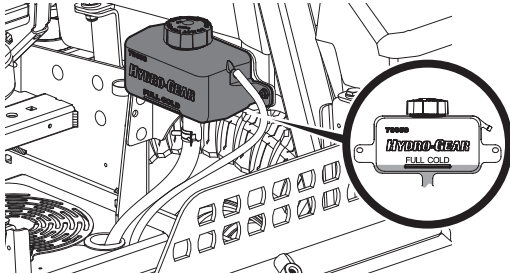

Figure 42
- Turn the reservoir cap counter-clockwise to remove, then check the oil level in the reservoir. Oil should be visible at the bottom of the cup, but the oil level must NOT be above the "FULL COLD" line (Figure 42). DO NOT FILL THE RESERVOIR.